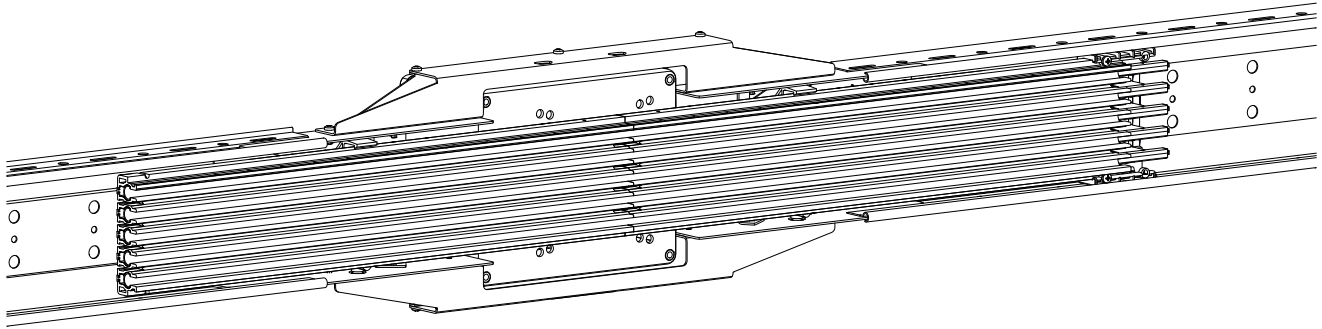

Fig. 71: Line feed with terminal box is installed on fastening frame
2. Hang the line feed with terminal box in the anchor points on the fastening frame. Observe the PE position during this. Conductix-Wampfler recommends attaching the PE rail as the last or lower pole (viewed from above) (see Fig. 71).